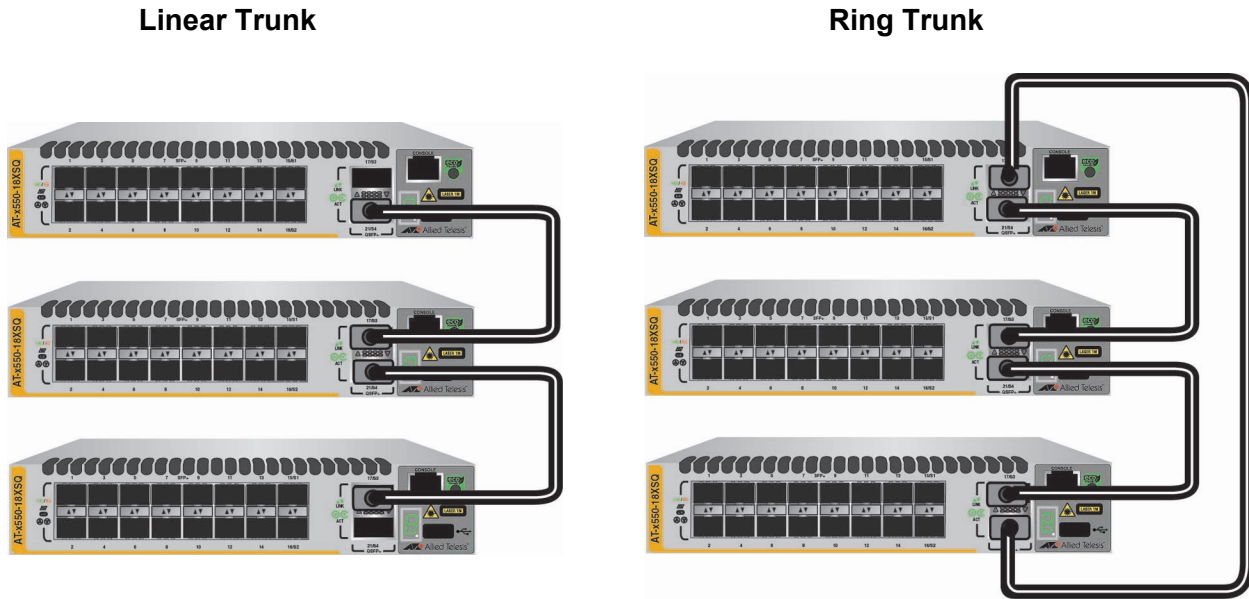

Figure 14. 40Gbps Linear and Ring Trunk Paths
- ❑ Trunk paths can be either linear or ring. Refer to Figure 14. Ring trunks are recommended because they add redundancy. Switches can continue to function as a stack even if a trunk link fails.